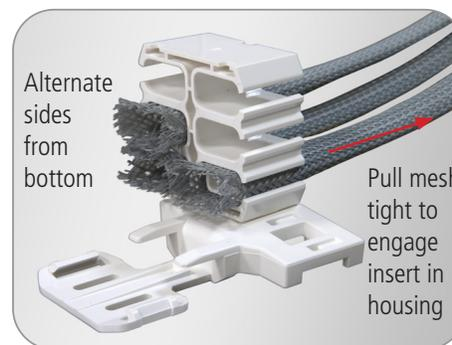

Figure 25
3. Slide fiber-filled mesh into housing from the bottom up and alternating sides as shown (Figure 25). Secure Splice tray clip and work mesh towards basket to remove twisting. For V-clips on Mesh Basket adapter, use the same procedure as V clips on splice tray.
4. For installation into Mesh Housing on Mesh Adapter Bracket, place the insert and non-frayed mesh into the clip by slightly pulling the mesh away from the basket until it is fully engaged (Figures 25 and 26).